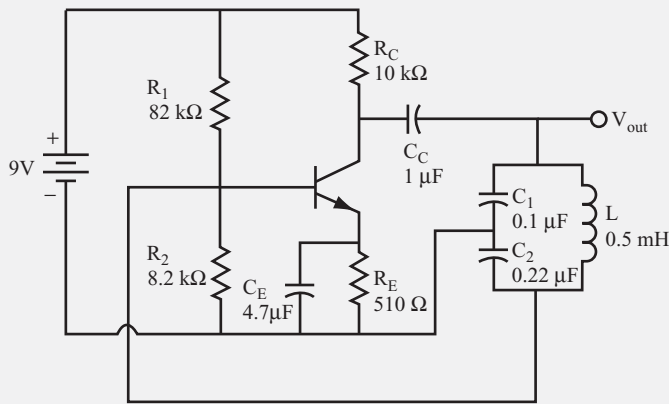

FIGURE 9.19
- 3. Disconnect the battery from the circuit, and make the changes required to set up Circuit #2, the Colpitts oscillator circuit with feedback to the base, as shown in Figure 9.19.